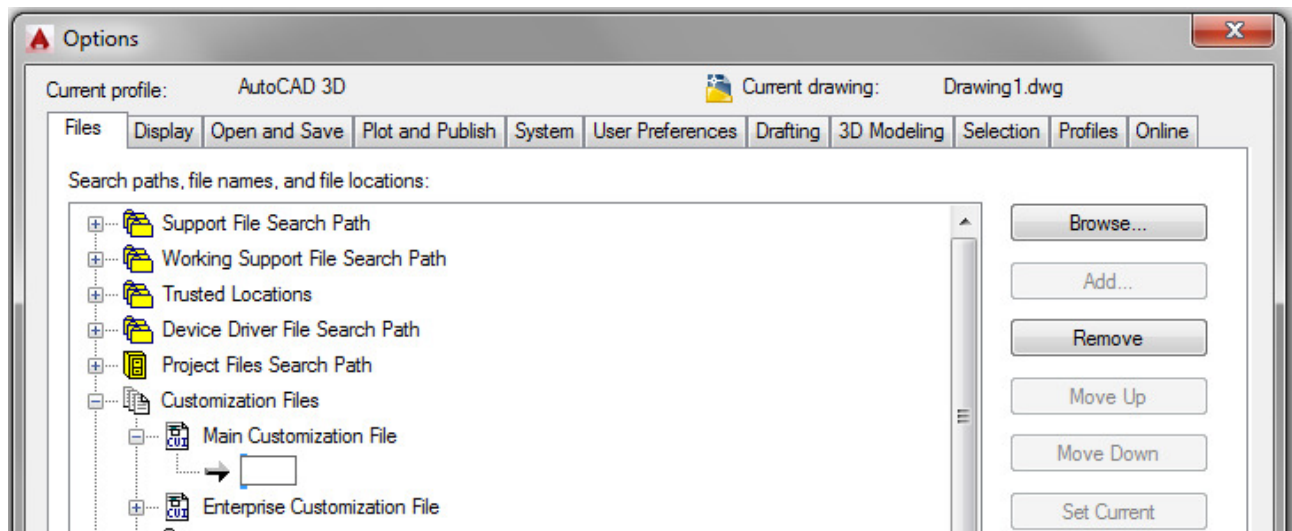

Figure Step 7
Step 7 Step 6 will remove the customization file and show a blank box as shown in the figure. Click the Browse button to open the Select a file dialogue box. (Figure Step 7)